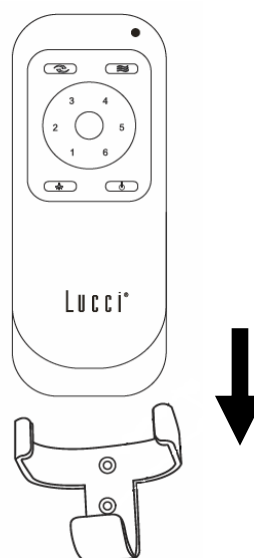

Fig. 10b
2. Slide the remote into the holder to rest the remote. (Fig. 10b)